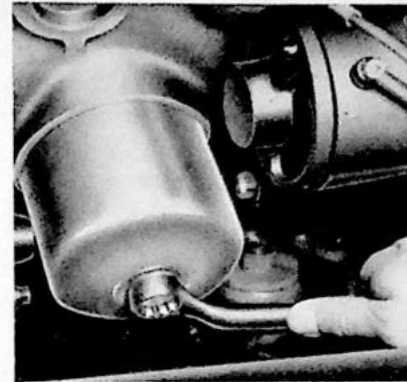

Fig. 21. Removing the oil filter.
2. Loosen the centre bolt, see Fig. 21. Allow the oil running out to collect in a suitable vessel.